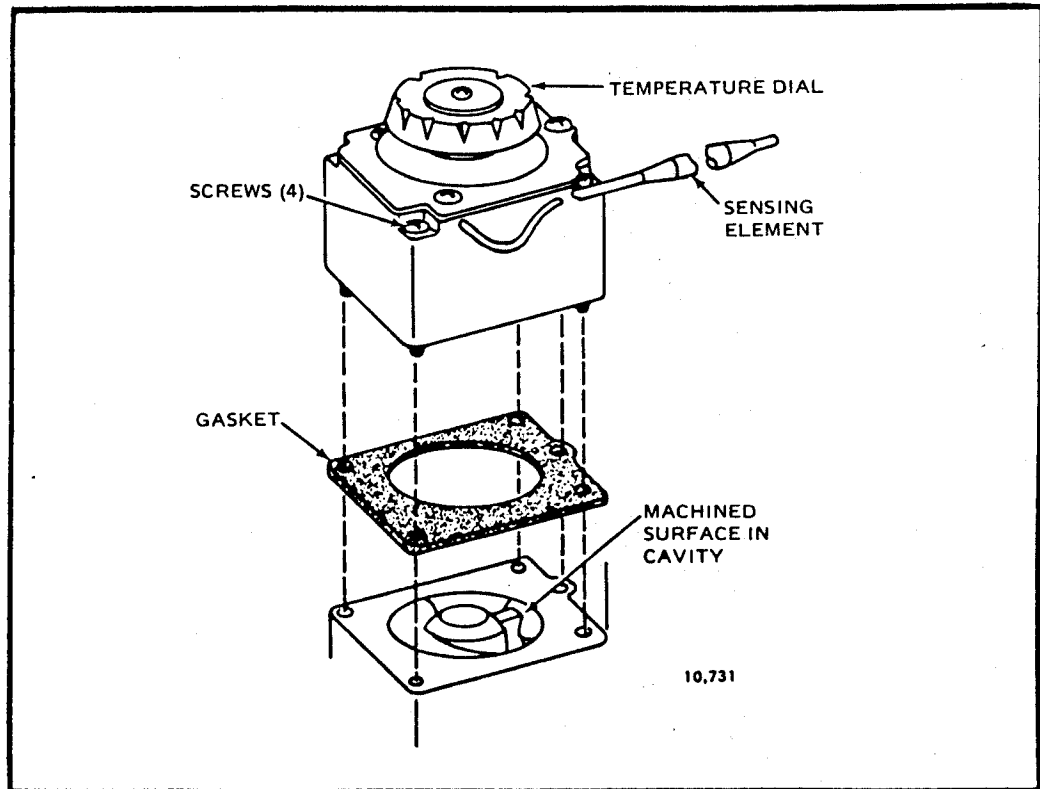

Fig. 27—Mounting T5286 ON-OFF Operator.
2. Remove the screws and lift off the old operator or cover plate and the gasket. See Figs. 27, 28, and 29.